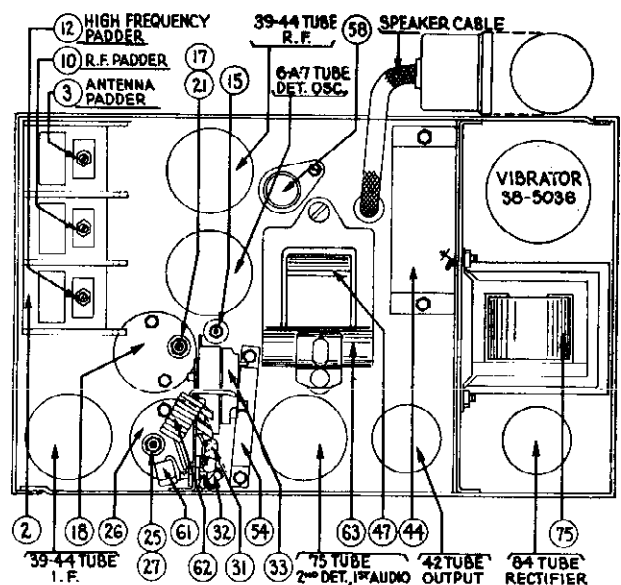

FIG. 2
Remove the speaker lid from the Receiver and disconnect the antenna lead from the Receiver. Remove the grid cap from the 6A7 tube (for location see Fig. 2.)
Set up the signal generator and adjust it to exactly 260 K. C. Connect the generator lead to the grid cap of the 6A7 tube. (See Fig. 2.) The output meter must be connected by means of an adapter to the small prong of the speaker plug and to the chassis.
The padders ⑩ and ⑪ must be adjusted first. These padders should be adjusted to peak. (Figs. 2 and 3.) First adjust the screw, then the nut.
The padders ⑫ and ⑬ must be adjusted next. (Figs. 2 and 3.) Turn the adjusting screw ⑫ all the way in. A metal screwdriver can be used for this. Then, with generator attenuator set so there is approximately half-scale reading, adjust the nut ⑬ with a fibre wrench for the maximum reading on the output meter.
There are four holes in line, one in each of the sections of the tuning condenser housing. (See Fig. 2.) Place a nail of the size that fits snugly through the holes and then turn the condenser plates out of mesh until they strike against the nail.